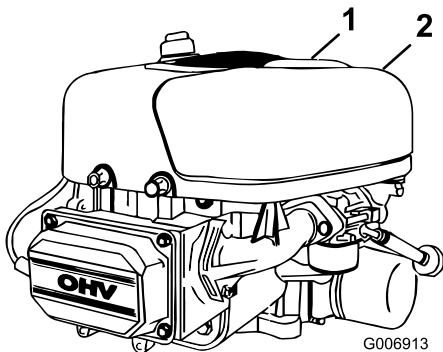

Figure 21
6. Pull up on the air cleaner cover handle and rotate it toward the engine (Figure 21).